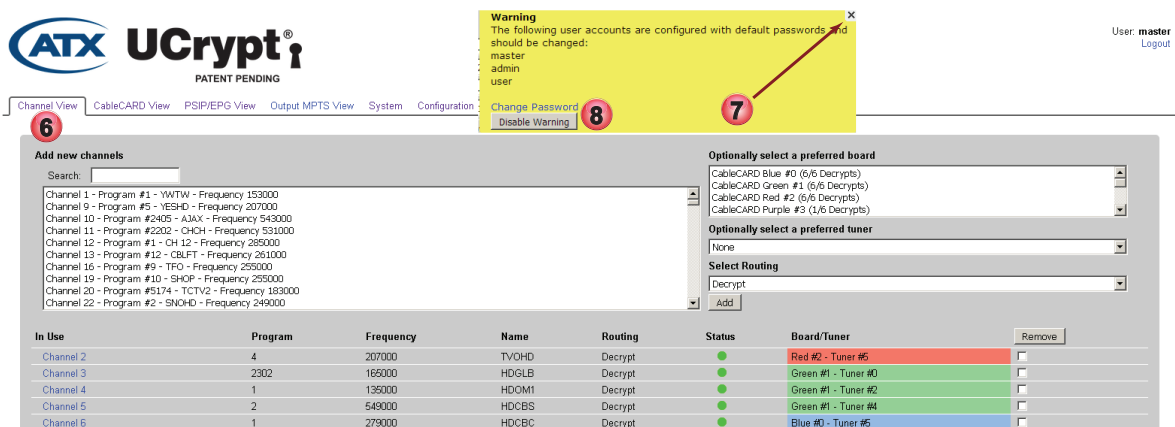

Figure 1-6: Channel View Page
6. Following login, the Channel View page is presented, Figure 1-6. Your screen may differ slightly from the example depending on the model and whether the Device has previously applied configuration settings or if it is factory new.